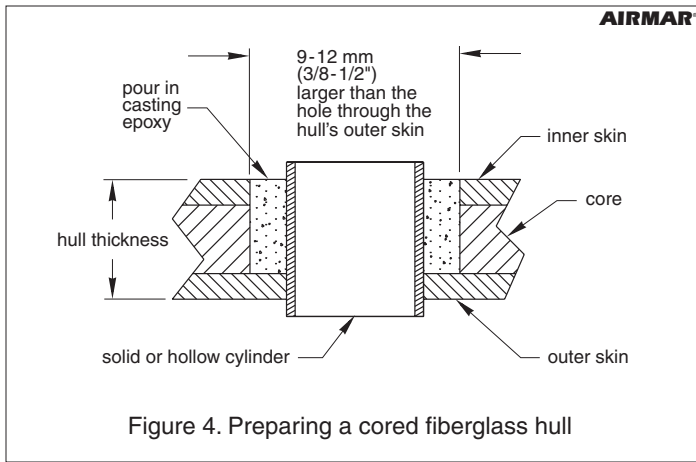

Figure 4. Preparing a cored fiberglass hull
- Using a 51 mm or 2" hole saw, cut a hole from outside the hull through the *outerskin* only (see Figure 4).
Alternatively, a hollow or solid cylinder of the correct diameter can be coated with wax and taped in place. Fill the gap between the cylinder and hull with casting epoxy. After the epoxy has set, remove the cylinder (see Figure 4).